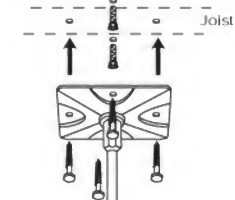

Fig. 7
2.4-Place the mounting plate on the ceiling location you have chosen. The pencil line you have made should be visible as you look through the two joist attaching holes in the mounting plate. (See Fig. 7)
2.5-Remove the mounting plate and prepare the mounting surface and all holes. You can use one of the probes to make a starter hole for the drill bit. Having located the exact center of the joist, insert the 5/32" pilot hole drill bit into your drill motor. Drill four pilot holes; two into the joist, two into the mounting surface. If the mounting surface is gypsum board you will use two togglers in the holes on either side of the joist location holes. (See Fig. 7.) Be sure to use all four supplied lag bolts in all four holes in the mounting plate.